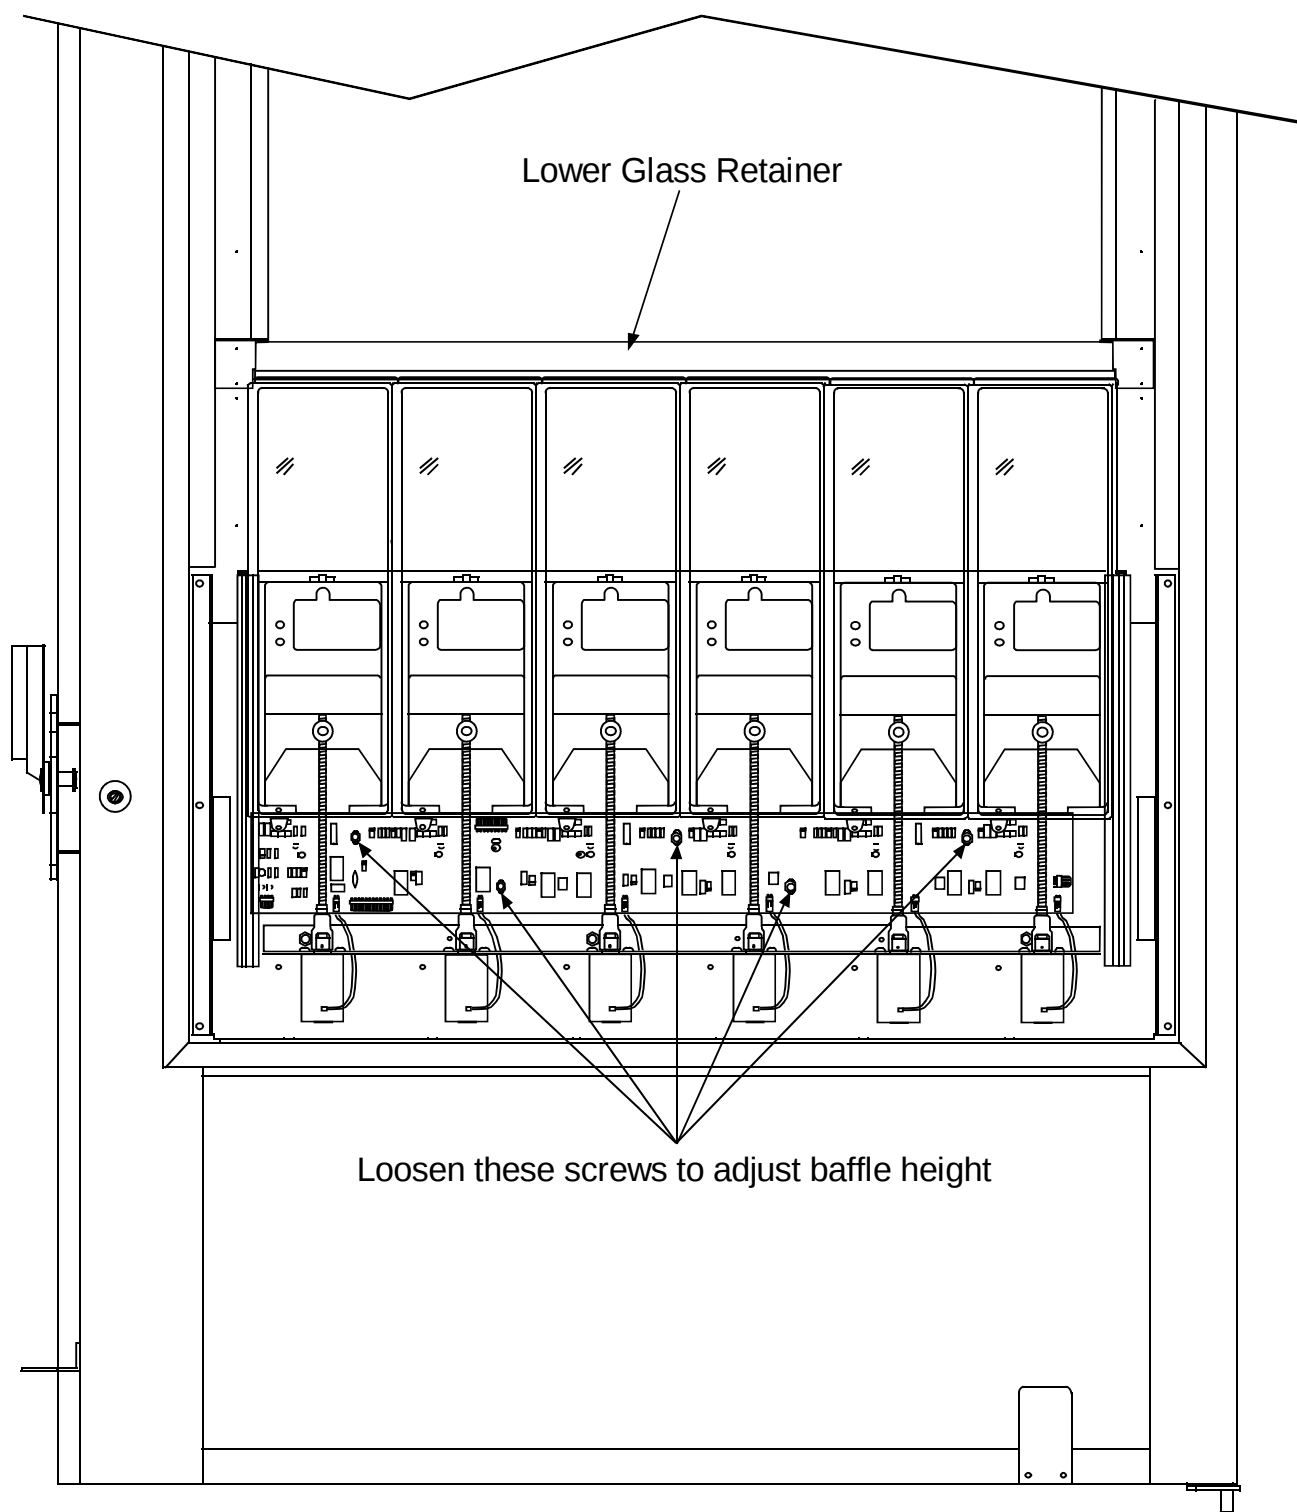

Figure 4-7. Baffle Height Adjustment
- a. Loosen all 5 screws that hold the opto-circuit board to the baffle assembly (see *Figure 4-7*).